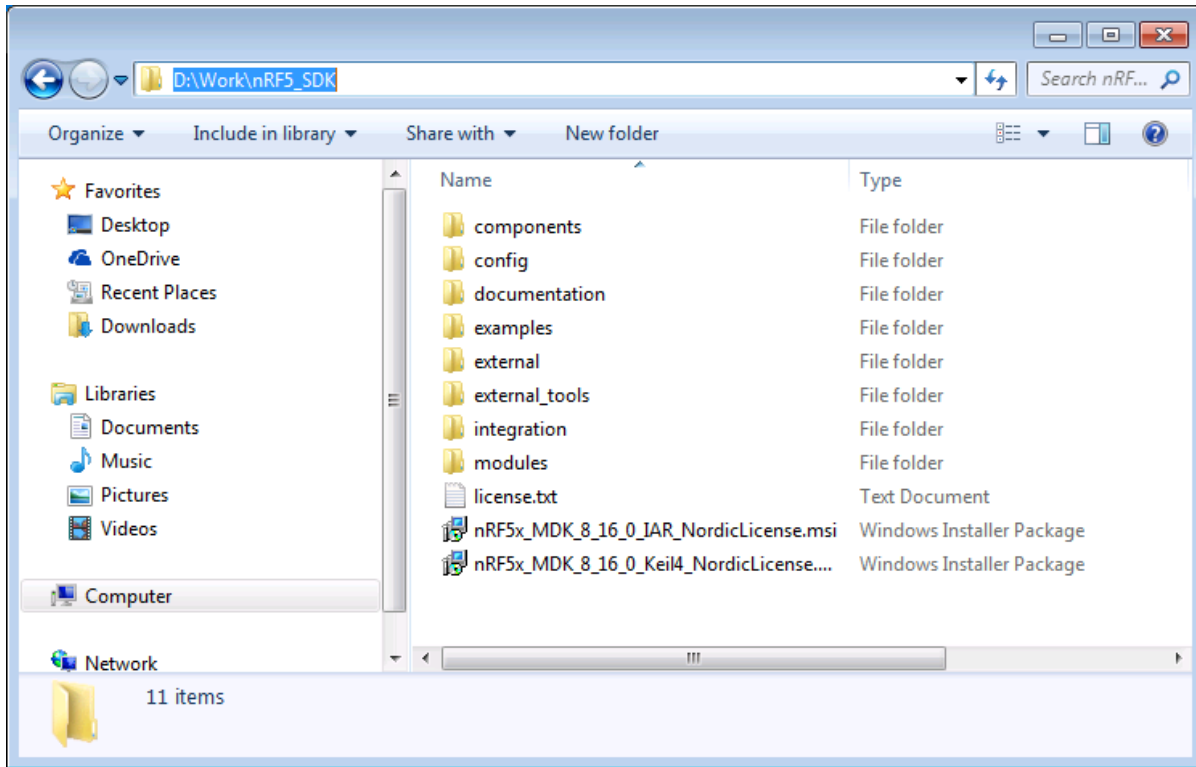

Figure 1: nRF5 SDK folder structure
2. Once downloaded, extract and place the SDK in a suitable location on your machine, e.g.: `D:\Work\NRF5_SDK` (Figure 1).